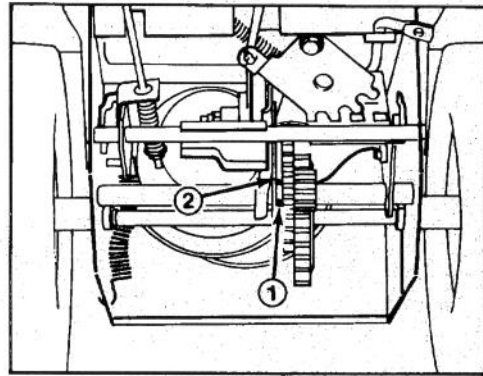

Figure 29
3. Shift speed selector to third gear and push down on speed selector plate to move drive assembly to the right. Drive assembly should contact roll pin; if not, push to the right to make a contact (Fig. 29).